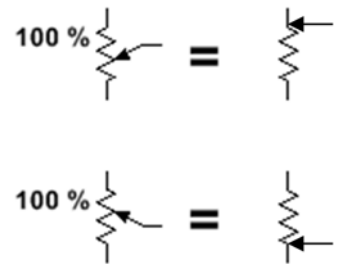

Fig. 2: The correct (top) and incorrect (bottom) orientation of the potentiometer in Multisim.
- ❖ Fig. 2(top) shows the correct orientation using “flip horizontal”. ☺
- ❖ Fig. 2 (bottom) shows the incorrect orientation using “rotate”. ☹